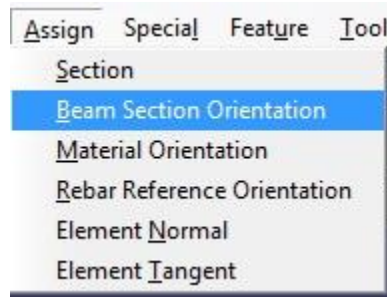

Figure 11. Beam Section Orientation Drop down Menu
- Finally, a **Beam Section Orientation** must be assigned. In the toolbar at the top of the Viewport, there is a dropdown menu labeled **Assign**. Using the left mouse button, click **Assign** and click **Beam Section Orientation** (Figure 11).